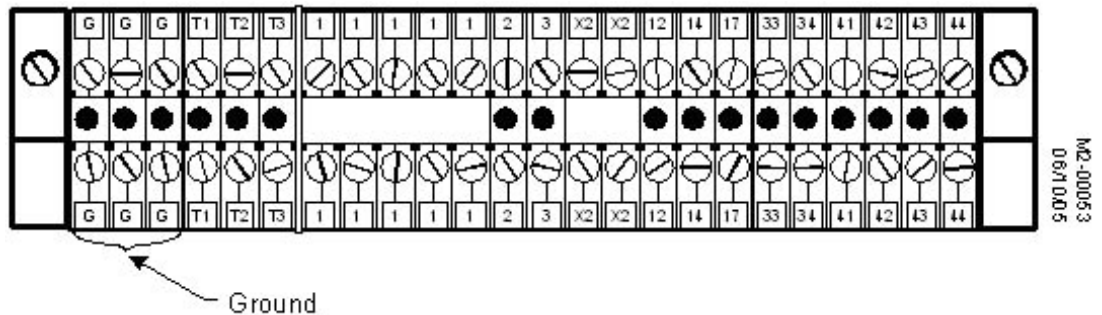

Figure 3-3: Ground Connection on Terminal Block
2. Connect the motor ground wires (ground wire and shield wire) to the ground terminals. See Figure 3-3.